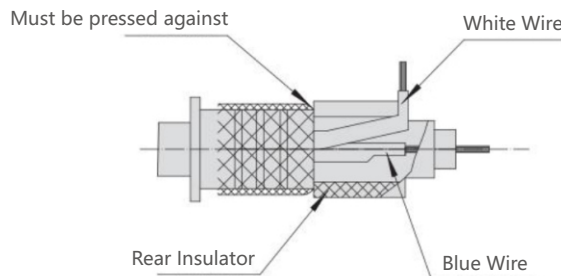

Figure 3.9
- ④ As shown in Figure 3.9, bend the white wire outward and place it into the slot of the insulator. Pass the blue wire through the insulator. The tail of the insulator must be pressed against the shield layer.